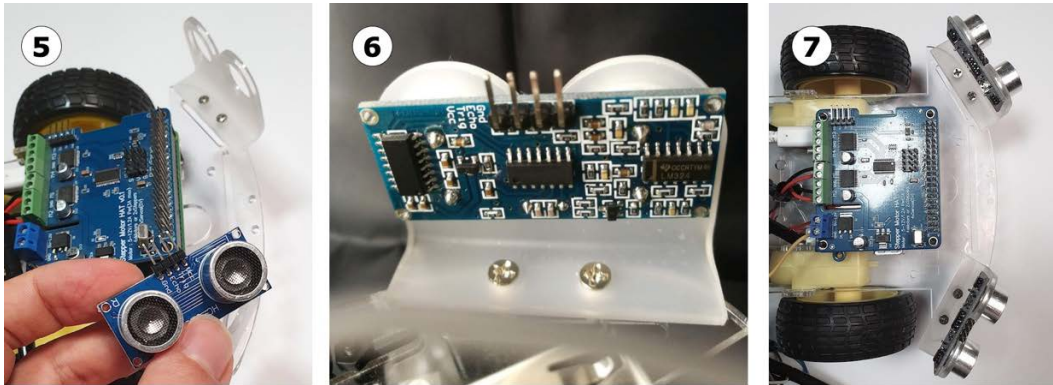

Figure 8.10 – Pushing the sensors into the brackets
Figure 8.10 shows how to push the sensors into the brackets:
- After putting in both sensors, the robot should look like panel 7 of *Figure 8.10*.